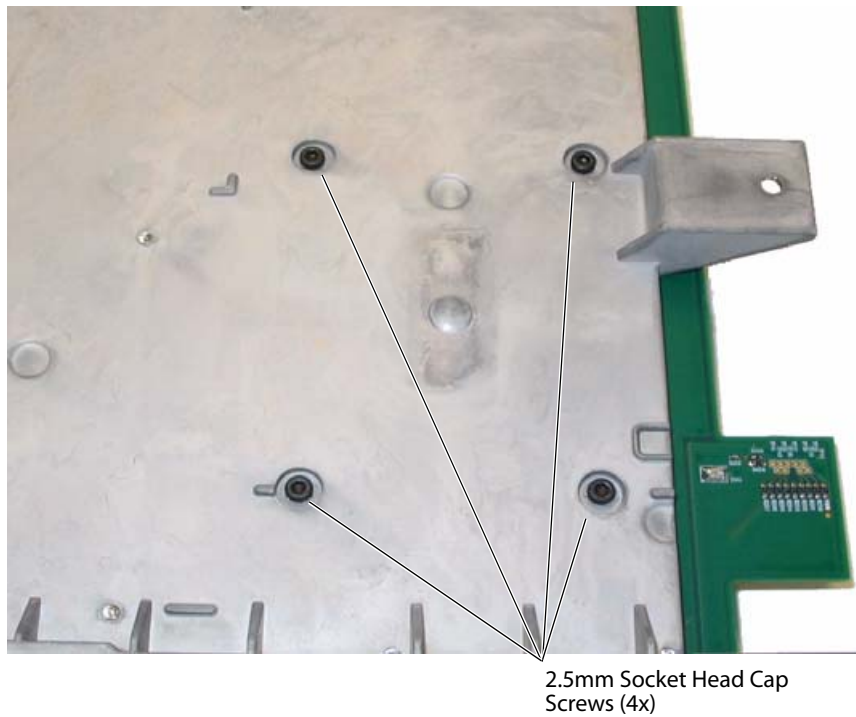

Figure 4.25 Nest Frame Cap Screws
- 6 Loosely reinstall the four 2.5mm cap screws as shown in Figure 4.25.